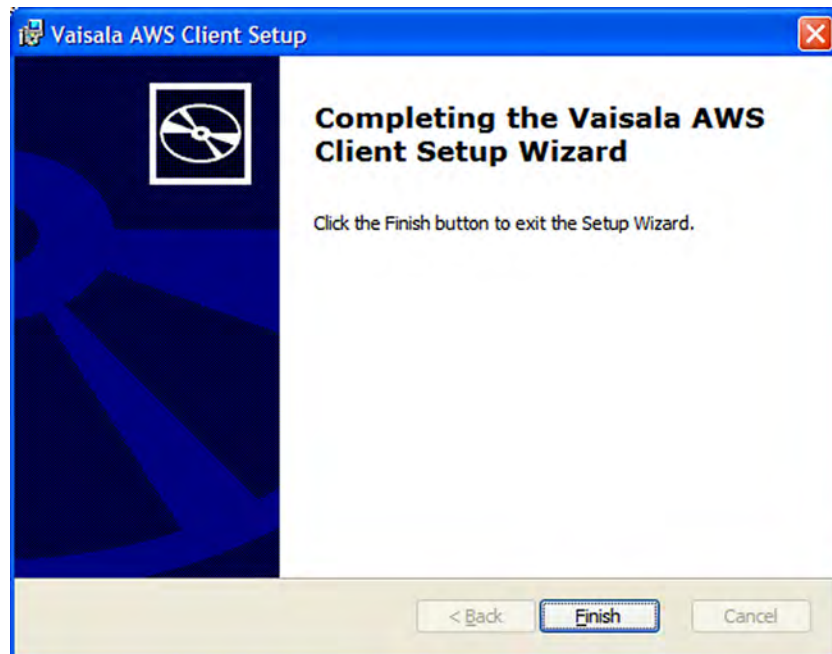

Figure 17 Installation Complete Window
6. Once the installation is complete, the **Installation Complete** window presented in Figure 17 on page 40 is displayed. Exit the installation wizard by selecting **Finish**.